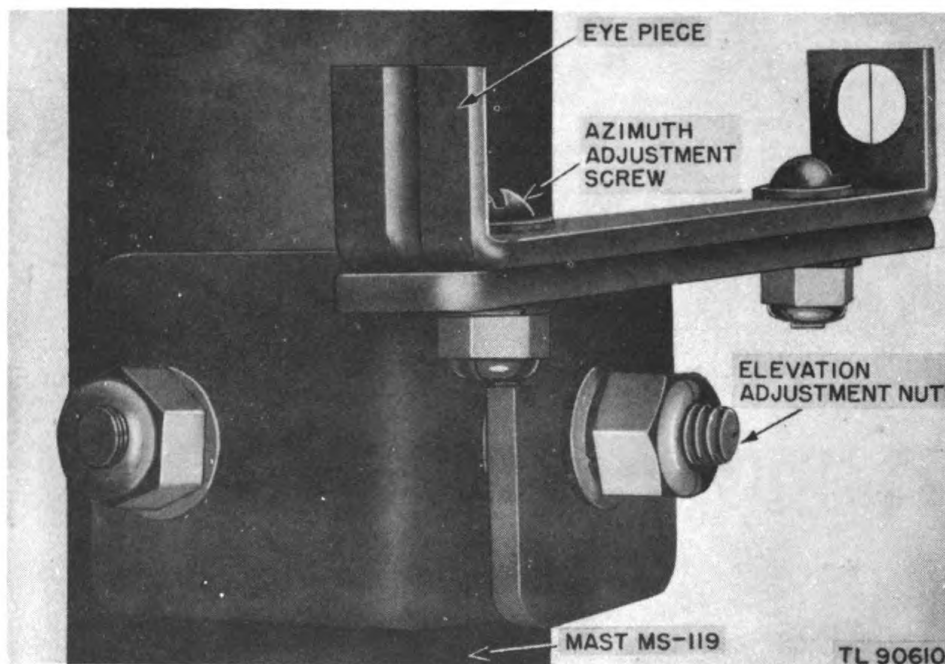

Figure 7. Mast sight.
- (2) A canvas cover, Bag BG-179, is furnished to protect the crossarms when not in use.
- (3) The four Adcock elements are formed by joining Mast Sections MS-50 with Mast Sections MS-120.
- (4) Canvas bag, Roll BG-56-A, is furnished to store and protect the mast sections when not in use.
d. Mast Sight. A short metal strip, bent up at each end approximately $\frac{3}{4}$ of an inch, forms a sight for lining up the beacon array (fig. 7). One end of the bent-up portion contains a slit through which the operator sights, the other end contains a hole with a thin metal strip or hairline running through the center.